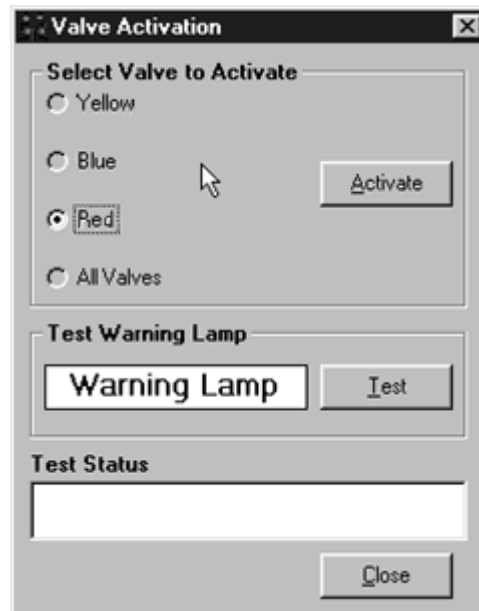

Figure 2-24: Valve Activation
1. At the Trailer **Main Screen** click on **Component Test**, then select **Valves/Lamp** to display the **Valve Activation** Screen. See Figure 2-24.